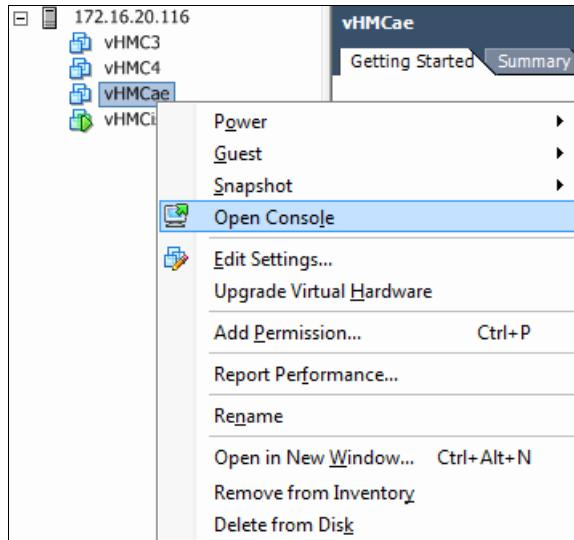

Figure 3-65 Open the console
18.From the main vSphere panel, right-click the new VM and select **Open Console** (Figure 3-65).